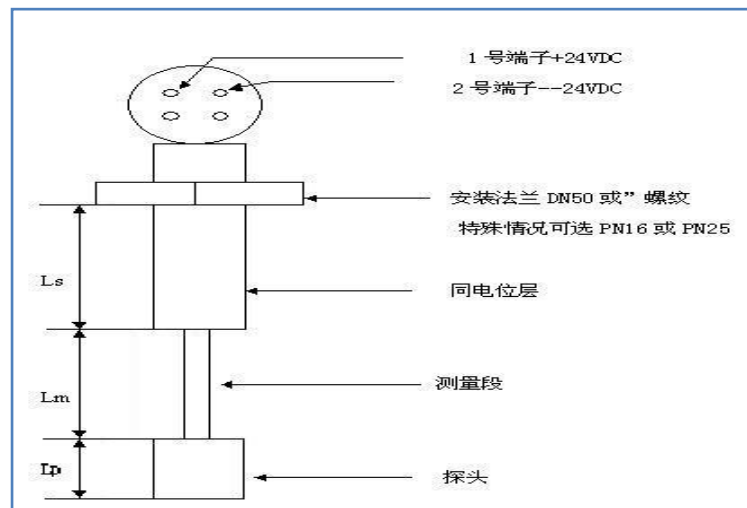

Fig. 6-2-2 Connecting Terminals
6.2.2.2.2 Drawing of structure and principle(See Fig. 6-2-2)